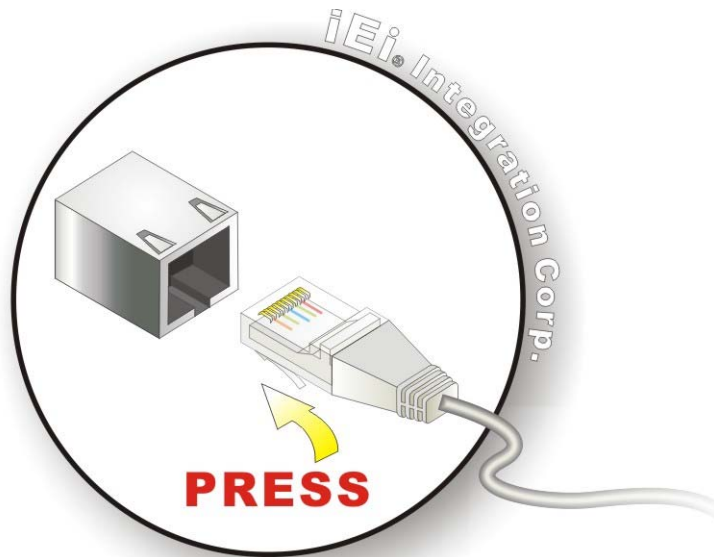

Figure 4-23: LAN Connection
- Step 2:** Align the connectors. Align the RJ-45 connector on the LAN cable with one of the RJ-45 connectors on the WAFER-KBN-i1. See **Figure 4-23**.